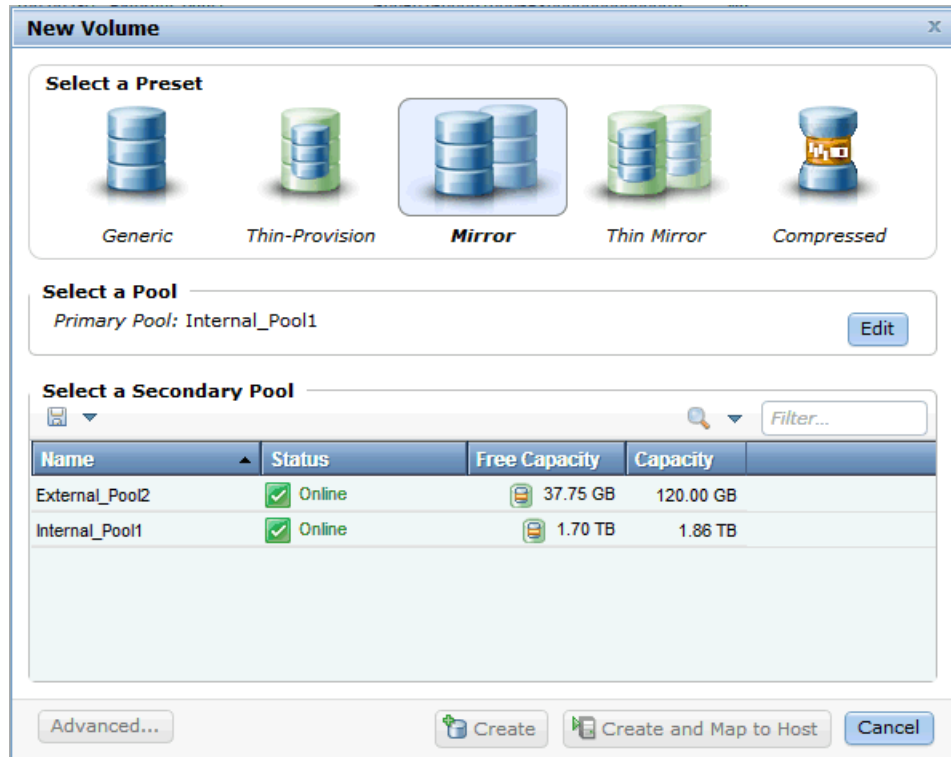

Figure 6-11 Create a mirrored volume - Select the secondary pool
- Select the primary pool by clicking it and the view changes to the second pool (Figure 6-11).